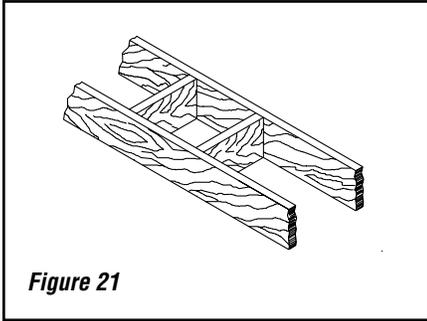

Figure 21
1. Cut and frame the holes in the ceiling, floor and roof where the chimney will pass (see **Figure 21**). Use a plumb-bob to line up the center of the holes. The sizes are indicated in **Table 2** for the floor and ceiling holes and **Table 3 (Page 16)** for the roof holes.